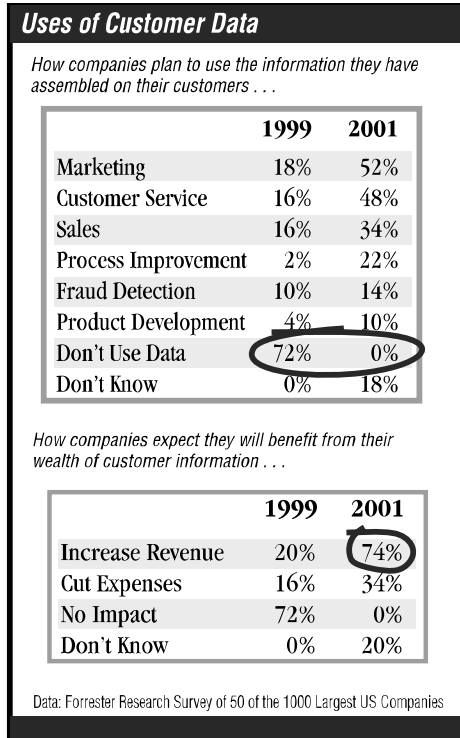

Figure 13.2 Current and planned use of data warehouse information
- ◆ Despite a lot of press coverage of, and investment in, data warehouses—vast stores of raw facts collected about transactions and customer behaviors—many companies still aren't using these resources consistently. According to a survey that sampled 50 leading U.S. companies, some 72 percent said that as of 1999 they were *not* making use of the customer data provided by their transactional information system (see Fig. 13.2).² It's hard to tell if this is because people have yet to figure out how to actually *use* the data, or if companies just haven't yet elected to make the investment—we suspect it's a mix of both. Just as interesting, though, is the fact that the survey results show that *all* the companies queried plan to be using that data in a few years.